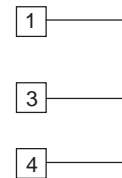

Fig.4
- 2) Make a short circuit among the 1, 3 and 4 terminals as shown in Fig. 4.